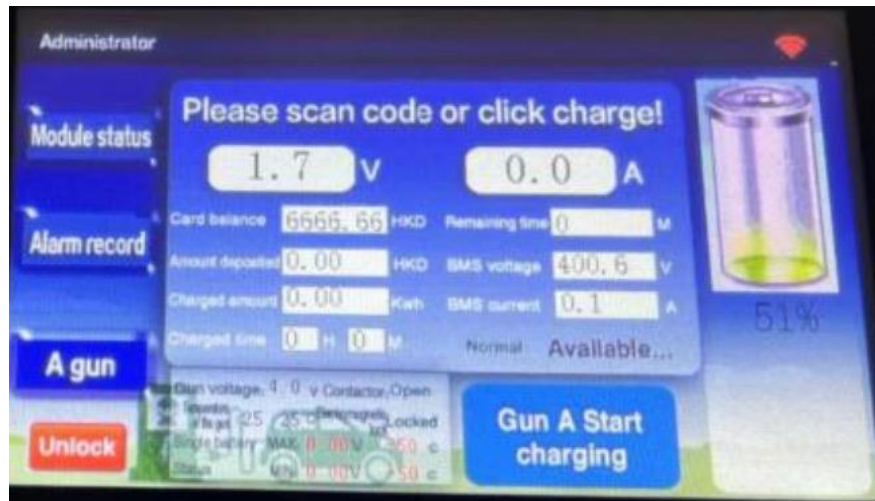

Figure 6-2-1
- 1) In the standby state of the charging station, prompt the user with 'Please scan code or click charge,' as shown in Figure 6-2-1.